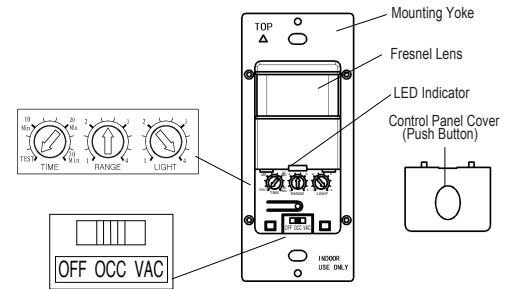

Figure 4
8. Locate the adjustment knobs on the control panel to perform test and adjustments. (Illustrated as Figure 4.)
**Ambient Light Dial:** The ambient light setting is adjusted with the Ambient Light dial (refer to figure 4). Turning the Light Dial fully counter clockwise (CW), lights always turn ON, when the motion is detected. All other settings will cause the lights to turn ON only when the light level is less than the setting.